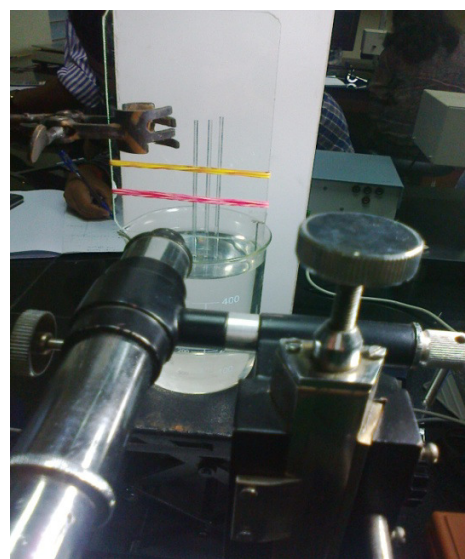

Fig. 3: Experimental set up
1. Fix the supplied capillary tubes on the glass plate parallel to each other (see Fig. 3). The lower ends of the tubes, which are to be immersed in water, should be nearly at the same level. Fix the tubes as close as possible. Fix the needle at about 1 cm away from the capillary tubes.